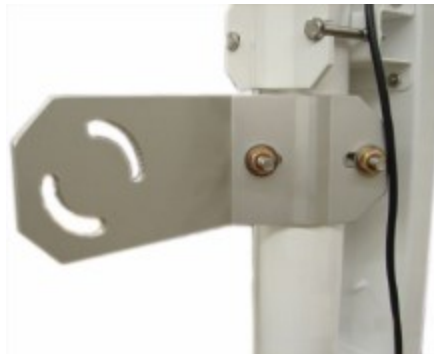

FIGURE 6-31. Antenna bracket mounted to pole
- b. Put a flat washer, lock washer, and a silicon bronze nut, in that order, on the ends of the U-bolt (FIGURE 6-31 (p. 48)).